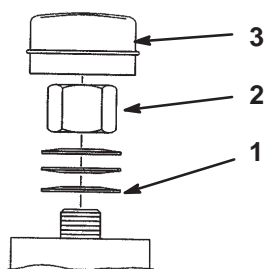

Figure 47
- Remove the dust cap from the caster and tighten the locknut (Fig. 47).
- Tighten the locknut until the spring washers are flat, then back off 1/4 turn to properly set the pre-load on the bearings (Fig. 47).
Important Ensure that the spring washers are installed correctly as shown in Figure 47.